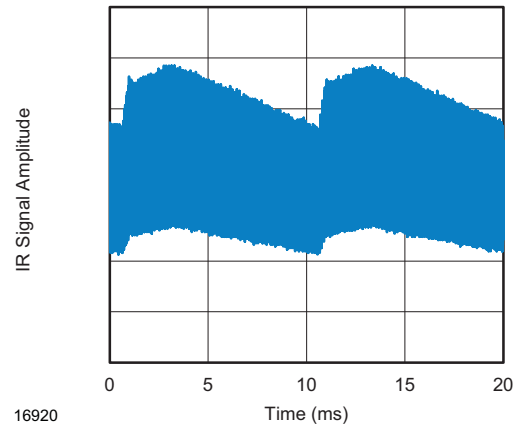
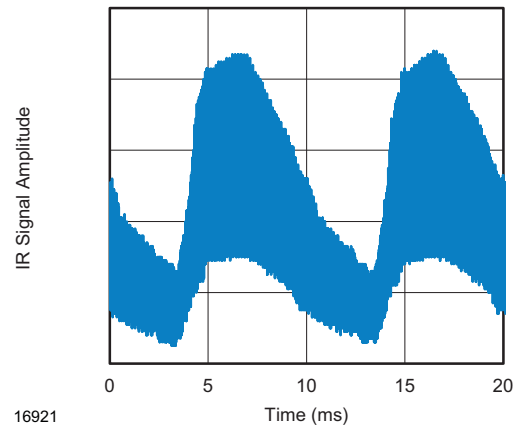

Fig. 13 - IR Disturbance from Fluorescent Lamp with Low Modulation
Fig. 14 - IR Disturbance from Fluorescent Lamp with High Modulation
- Strongly or weakly modulated patterns from fluorescent lamps with electronic ballasts (see Fig. 13 or Fig. 14)